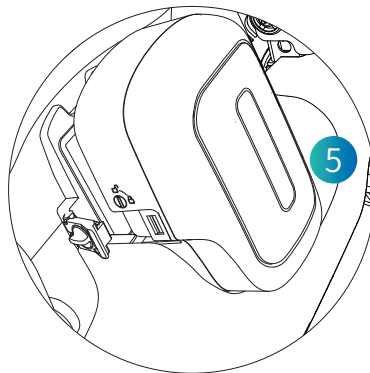

Figure 4.6.1.1.3
(3) In Step 3, remove the battery in the direction shown in the figure. (As shown on Figure 4.6.1.1.3)